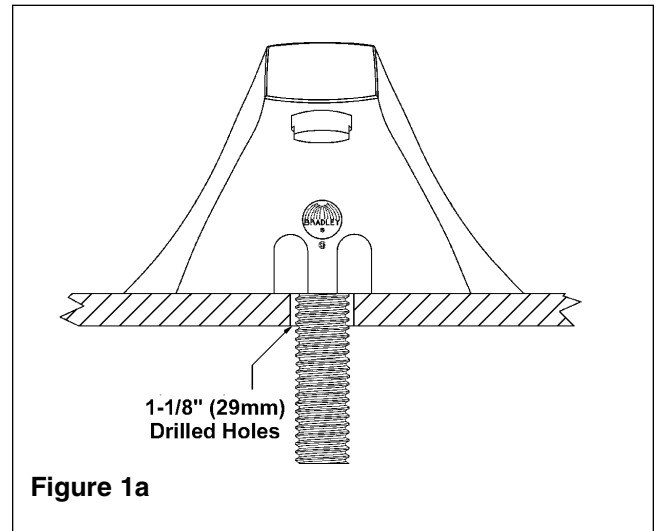

Figure 1a
2. Drill one 1-1/8" diameter hole in the location marked in #3 (see Figure 1a).